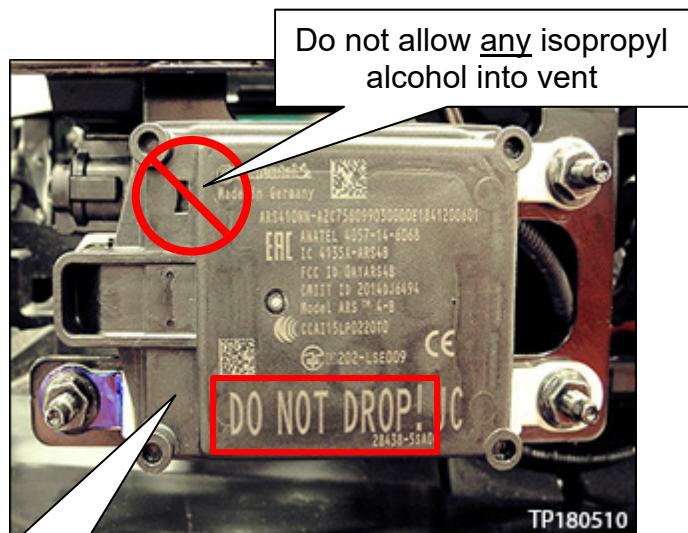

Figure 4
- Do not allow any isopropyl alcohol into vent (Figure 4).